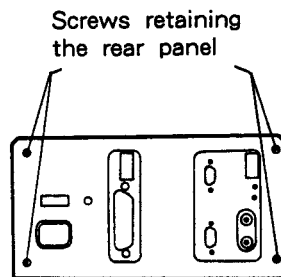

Fig. 1-7
2. Remove 4 screws retaining the rear panel (Fig.1-7), and 2 screws retaining the power unit.(Fig.1-8)